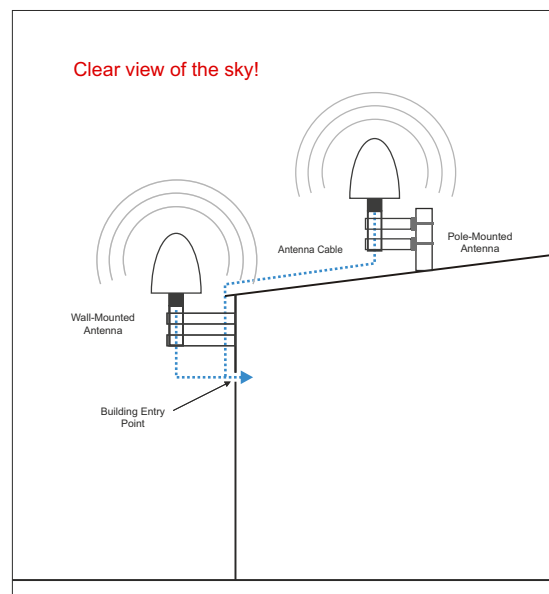

Fig. 1: Ideal Positioning
To avoid difficulties with synchronization of your Meinberg time server, select a location that allows for an unobstructed view of the sky (Fig. 1) so as to ensure that enough satellites can be found.
To ensure that your antenna has the best 360° view possible, Meinberg recommends mounting the antenna on a roof on a suitable metal pole (see Fig. 1, antenna on right). If this is not possible, the antenna may be mounted on the wall of a building, but must be high enough above the edge of the roof (see Fig. 1, antenna on left).
- Vertical installation of antenna (see Fig. 1)